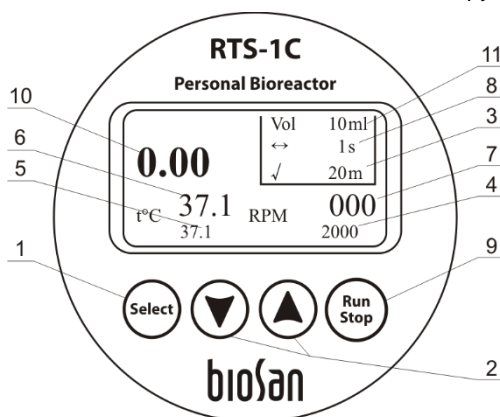
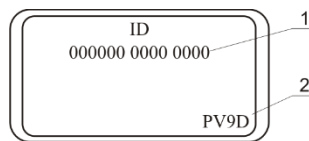

Figure 2. Control panel
Figure 3. ID and hardware version
- 5.1. **Checking hardware version.** To check the hardware version, press ▲ and ▼ keys (fig. 2/2) simultaneously. Display will show a new screen with a unique fourteen-digit unit ID (fig. 3/1) and the hardware version (fig. 3/2). Please refer to the number in the version for further calibration. Display will change back to the previous screen after 4 seconds.
- Set the volume parameter of the distilled water on the display (fig. 2/11);
- Press **Run Stop** key (fig. 2/9) (the device will start the OD measurement cycle by accelerating to 2000 rpm);
6.5.1. Press the **Select** key (fig. 2/1) to choose a parameter that you want to change (the active parameter is blinking).
6.5.2. Use **▲** and **▼** keys (fig. 2/2) to set the necessary value (if the key is pressed for more than 2 seconds the parameter should change quicker).
6.5.3. It is possible to set time between optical density measurements (fig. 2/3), spinning speed (fig. 2/4), temperature (fig. 2/5), time between Reverse Spins (fig. 2/8), operating volume (fig. 2/11). Actual values of the temperature and speed are displayed on the display (fig. 2/6 and fig. 2/7).
6.5.4. Press the **Run Stop** key (fig. 2/9) to start and stop operation.
6.5.5. Press the **Run Stop** key (fig. 2/9) to stop the operation.
Caution! Operation stop will not stop the heating process. To stop heating process set temperature has to be decreased manually until "off" indication appears (fig. 2/5).